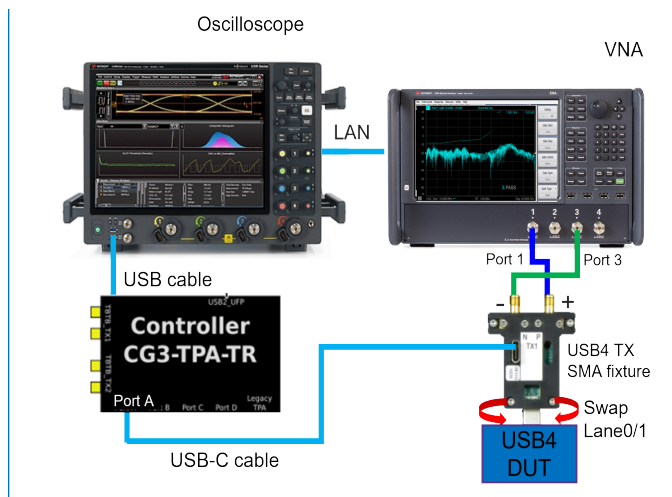

Figure 208 Tx Return loss test setup with Tx SMA test fixture
- 1 For the physical connections between the DUT & the Oscilloscope, see the connection diagrams in Figure 208 and Figure 209.